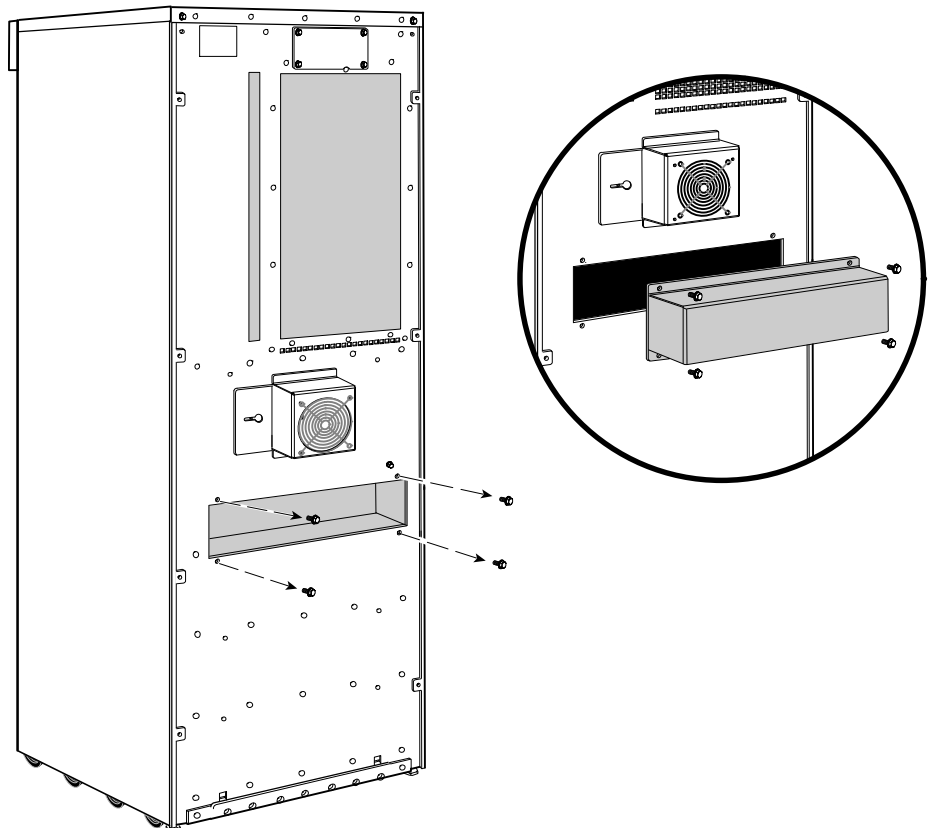

Figure 14. Reversing the UPS Conduit Landing Box
1. Remove the UPS conduit landing box from the rear panel and retain (see Figure 14).
7. Reinstall the UPS conduit landing box in the reversed position (see Figure 14).
13. Reinstall the UPS conduit landing box in the reversed position (see Figure 14 on page 25).